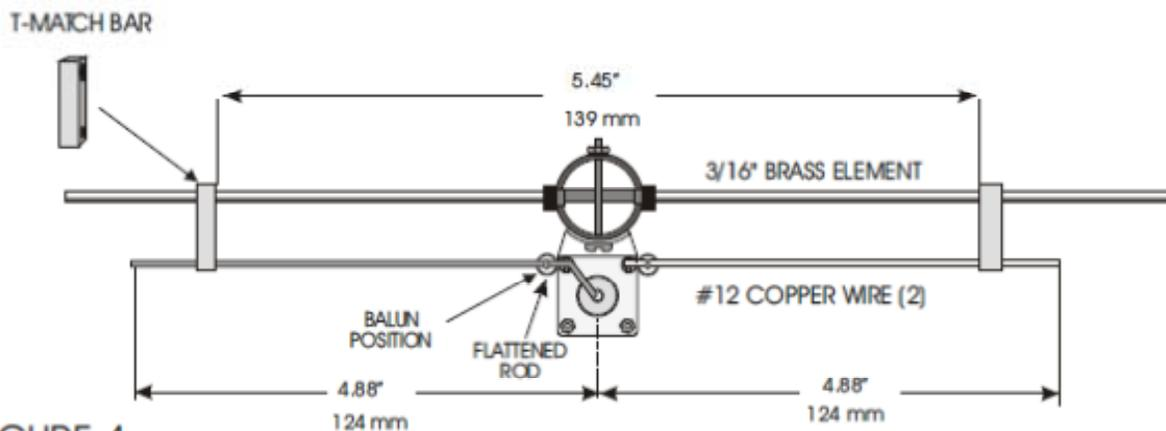

FIGURE 4.
5) The driven element T-match assembly is constructed as shown in Figures 4 & 5. Locate the two brass T-arms. Both are preformed. One is straight with a flattened end, while the other is bent and flattened on one end. Locate also the two brass T-match bars and position them on the brass driven element as shown in Figure 4.
Install the two T-match rods and T-match bars on the driven element as shown in the diagram (Figure 4) above. Note that the formed end of the bent T-match rod is inserted into the solder cup of the Type N connector and routed through the pre-assembled standoff insulator. Solder the copper wires to the connector center pin and the two standoffs.
6) Align the T-match bars parallel with the edge of the connector bracket, and adjust their position as shown in Figure 4 and 5. You can slide the bars carefully into position. Be careful and do not apply excessive force to the blue standoff insulators. They are easily broken with rough handling. You may have to bend the connector bracket slightly to achieve the listed dimensions in Figure 5.
7) Carefully bend the balun center conductor leads around the T match rods at the blue standoffs, as shown in Figure 5, and solder them both. The DSEFO432-25ATV covers a wide range, but can be adjusted to favor either end of the band depending on ATV activity in your area. Adjust the T Match length to the dimensions shown in Figure 4 for best performance at 439 MHz. For best results near 422 MHz leave the T match rods set at 5 1/8" and adjust the T match bars to 6 3/4" overall dimension between the bars. The T match bars may be adjusted for best match at your specific frequency, if you have good VSWR measuring equipment. See also our website (www.directivesystems.com/TMATCH.htm) for T match adjusting techniques. The settings in Figure 4 are for optimum performance at the high end of the ATV band. Curves for both settings are published on our website, and are worth viewing. Gain variation across the band is minimal.